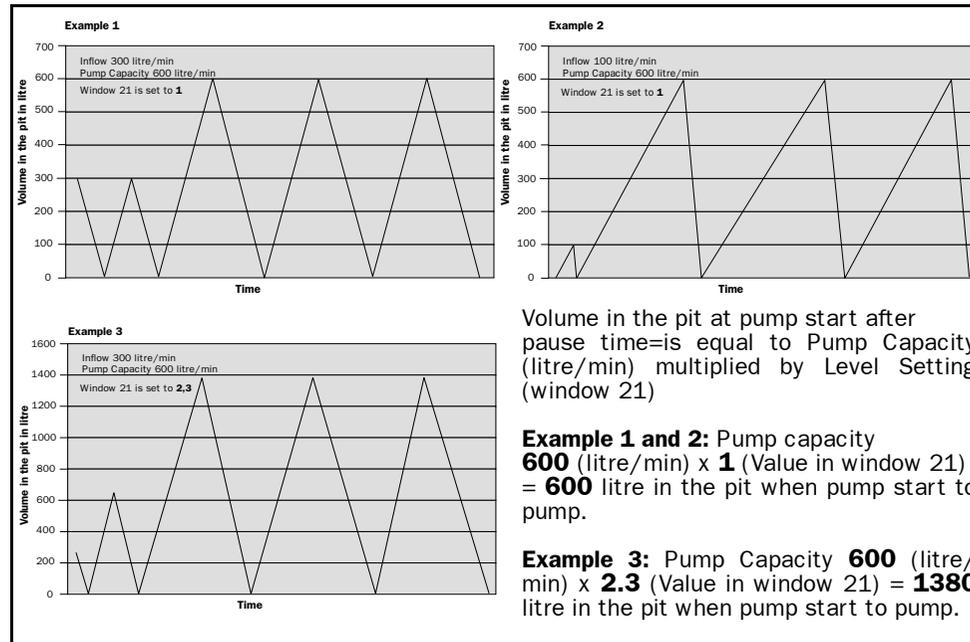

Fig. 7 Pump cycle example with different level settings in window 21.
16. Change the level setting in window 21 between 1-10 for shorter or longer pump cycles and levels in the pit. A low value gives shorter pump cycles and lower level in the pit. See Fig. 7, page 22.